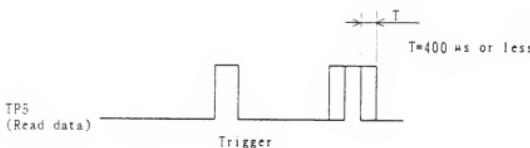

Fig. 5-8 Symmetry Check
c) Check the symmetry as described in Fig. 5-8.
d) Exchange the head assembly if the symmetry is out of the range as described in Fig. 5-8 on only one head side.